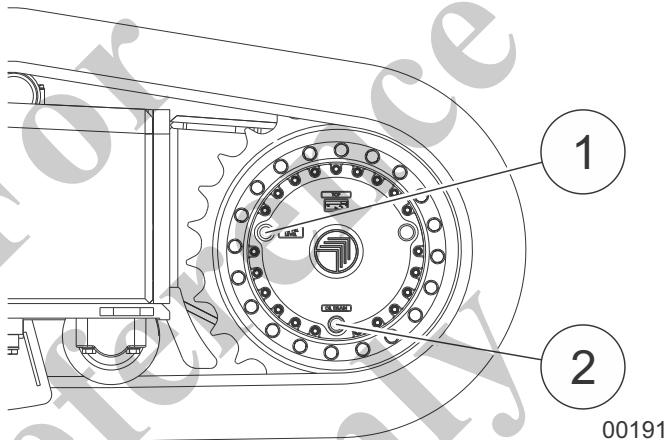

Fig. 29 Lubricating points (1) and (2) of the travel drive
| 1 | Position the machine on level and solid ground. Position lubricating points (1) in Fig. 29 and (2) in Fig. 29 as shown. |
| 4 | Slowly unscrew closure of lubricating point (1) in Fig. 29 until oil escapes via the tapped bore. If too much oil escapes, tighten the closure. |
| 6 | To do this, completely take off the closure (1) in Fig. 29. Fill in new oil via the tapped bore until it escapes via this bore. |
| 7 | Tighten the closure (1) in Fig. 29. |